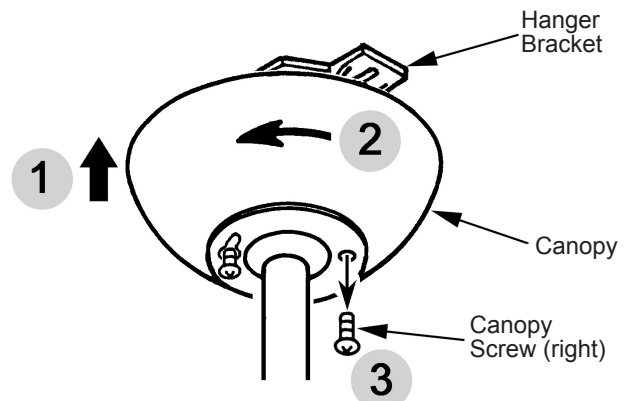

Figure 5.10
Step 10. Slide the Canopy over the Hanger Bracket and align the larger screw hole over the left Canopy Screw. Give the Canopy a slight twist to the left, which should align the right Canopy Screw hole. Insert and secure the right Canopy Screw, then secure the left Canopy Screw. (Fig. 5.10)